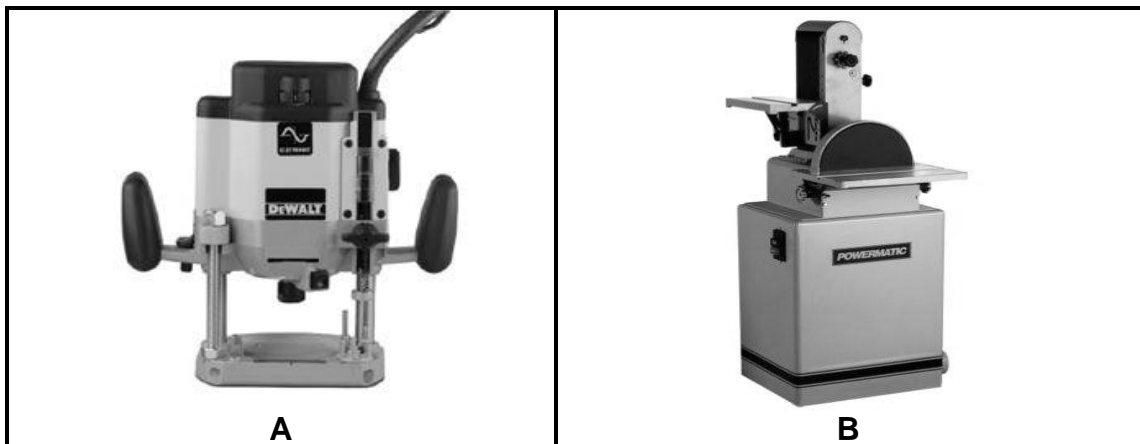

FIGURE 4.9
4.9 FIGURE 4.9 below shows two woodworking machines. Study the pictures and answer the questions that follow.